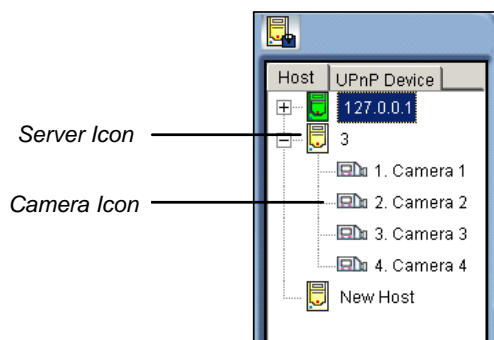

Figure 6-27 The Host Server Window
5. Alternatively, you can click and drag the created camera channel from the Host Server window (Figure 6-27) to each **Edit** tab.